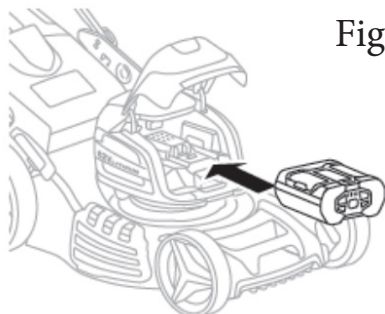

Fig.5B
- 2) Insert the battery pack into battery holder. (Fig. 5B)